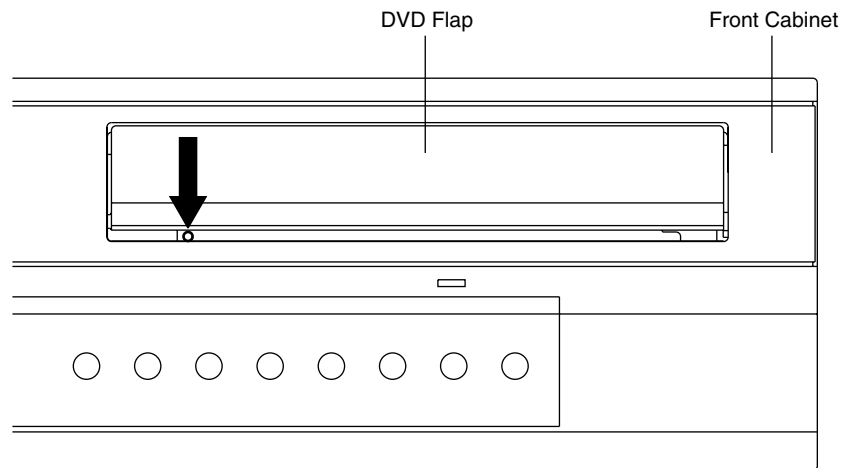

Fig. 1
1. Insert a fine rod (wire etc.) into the hole of the Front Cabinet as shown by the arrow. **(Refer to Fig. 1)**